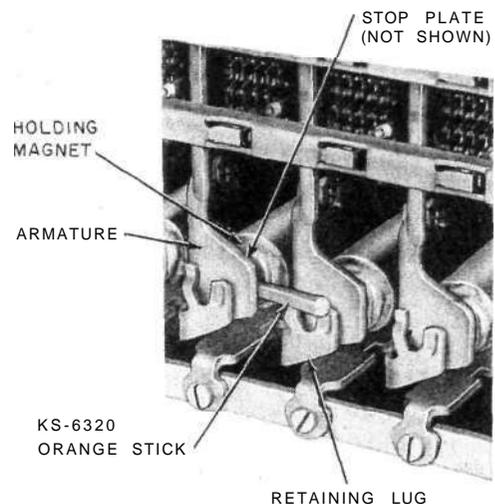

Fig. 31 —Blocking 324-, 325-, 328-, 334-, and 338-Type Switch Holding Magnets - Nonoperated
Fig. 31 and 32
- (1) Block the holding magnet nonoperated by inserting the 768A blocking tool between the core and the holding armature, similar to the method used in Fig. 31.